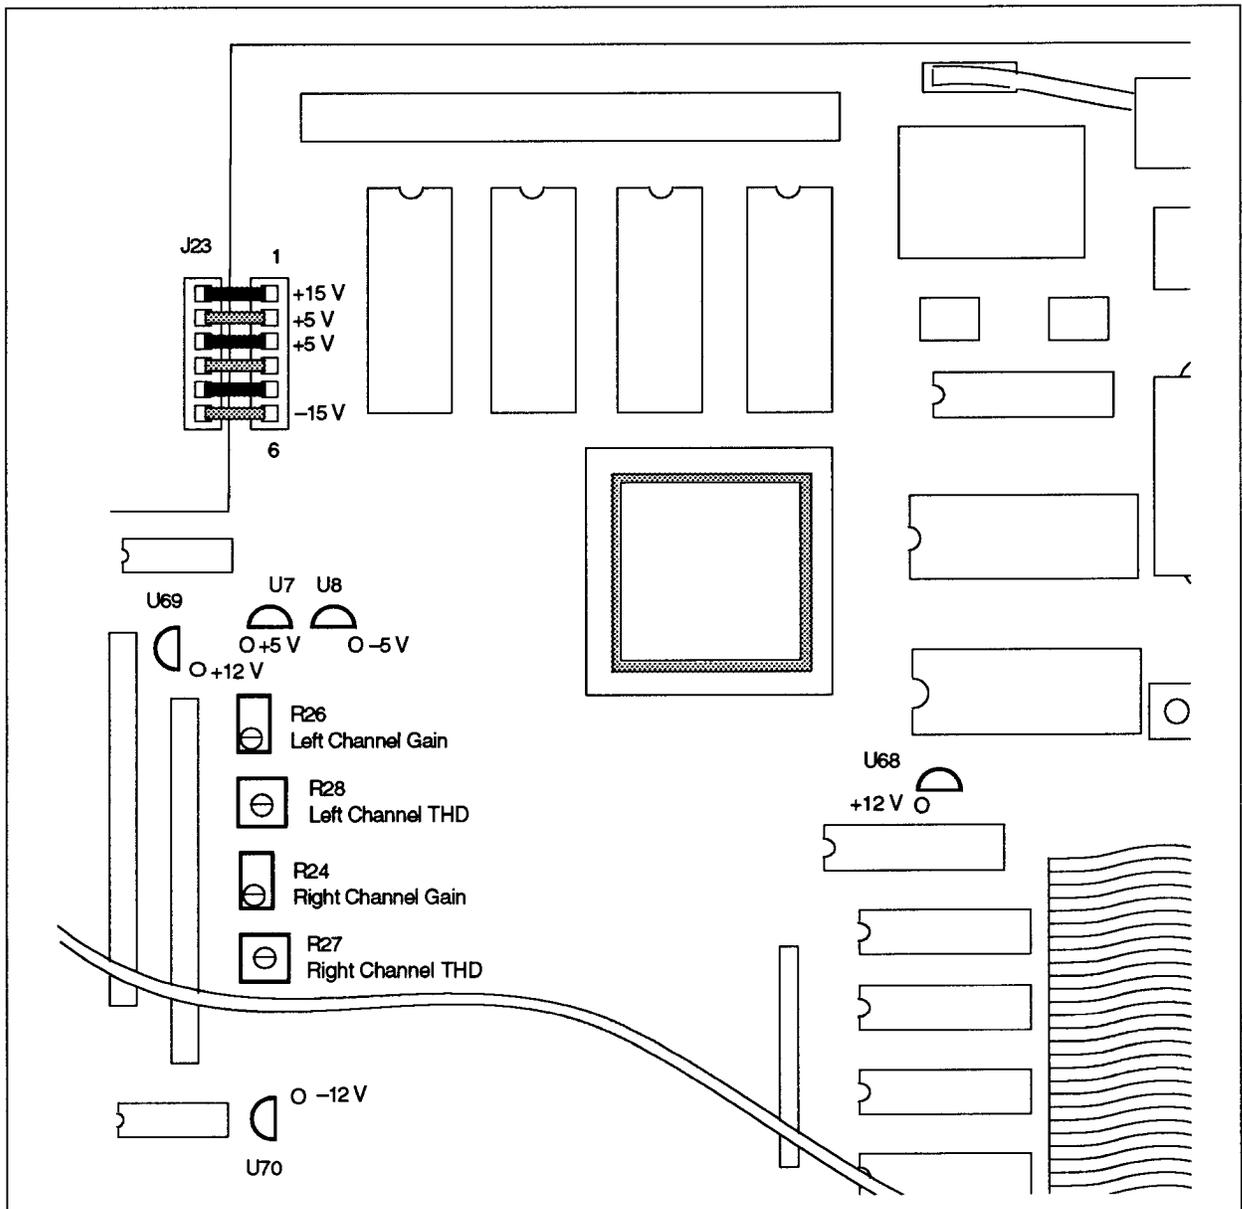

Figure 5-1. Voltage check points and adjustment locations.
b. Check the following supplemental regulated voltages at the points indicated (see Figure 5-1).